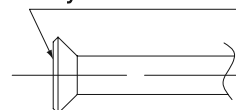

Fig.7
- When making a flare connection, coat the flared inner surface only with ether oil or ester oil. (**Refer to Fig.7**)